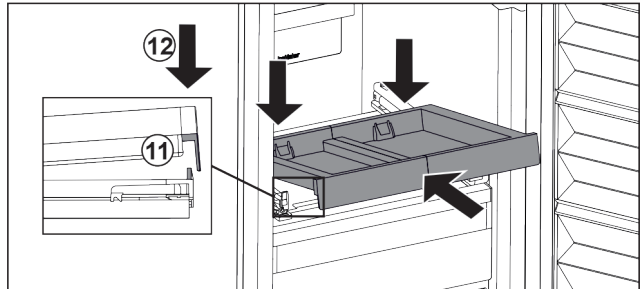

Fig. 122
- ▶ Slide in at an angle. Make sure that the stop is behind the lug on both sides. Fig. 122 (11)
- ▶ Lower the pull-out board at the front. Fig. 122 (12)